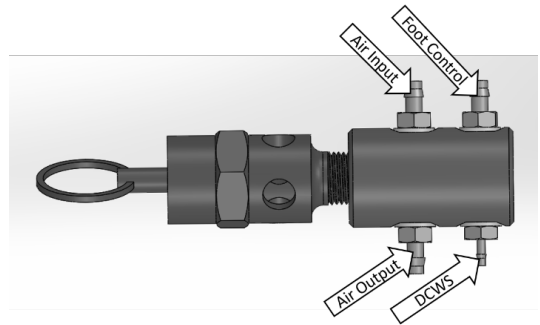

Fig. 5
Step 4 - Installing the new safety relief valve according to Fig. 5, use the provided sleeves when connecting the tubing.